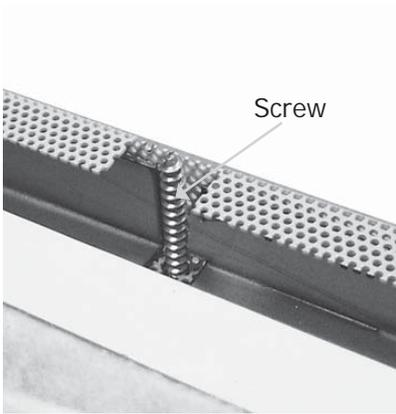

Figure 6 - Secure Metal Grille
6. Use flat head screwdriver to secure metal return air panel in place. See **figure 6**.